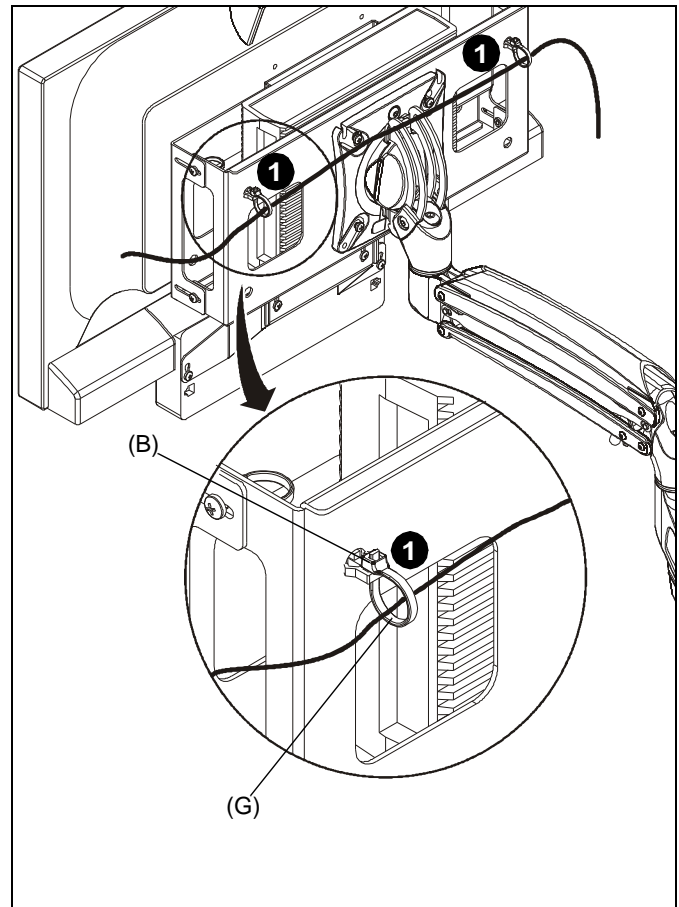

Figure 11
1. Use cable clips (B) and cable ties (G) to route cables as desired to interface bracket (A). (See Figure 11)